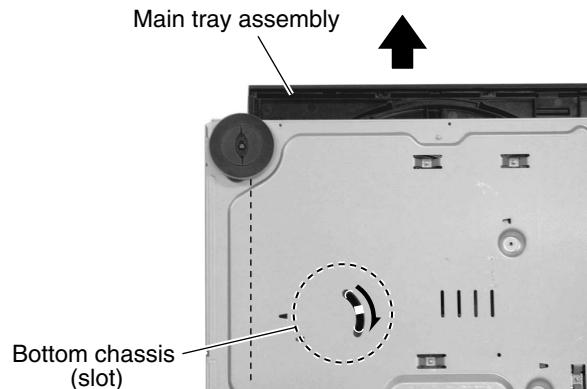

Fig.4
■Removing the main tray assembly (See Fig.4 to 7)
- Turn over the body and insert a screwdriver into the slot of the bottom chassis, then move it in the direction of the arrow in Fig.4. The main tray assembly will move forward.